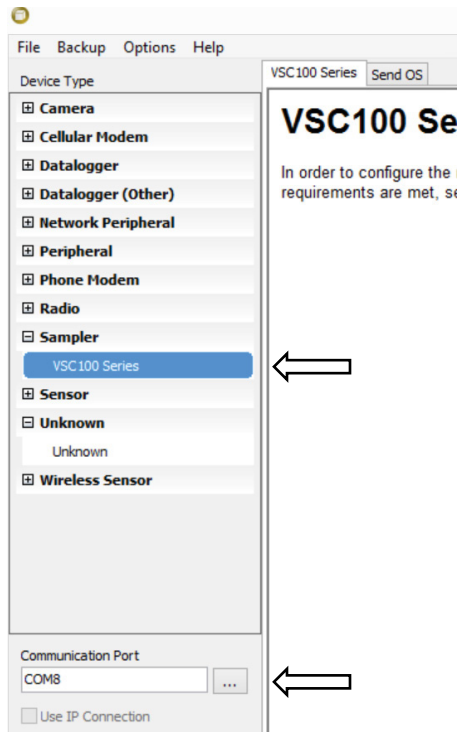

FIGURE C-4. Device Configuration VSC100
2. Open *DevConfig*. Select **VSC100 Series** under the **Sampler**. Click **Communication Port** and select the correct **COM** port. Click **Connect** (FIGURE C-4).